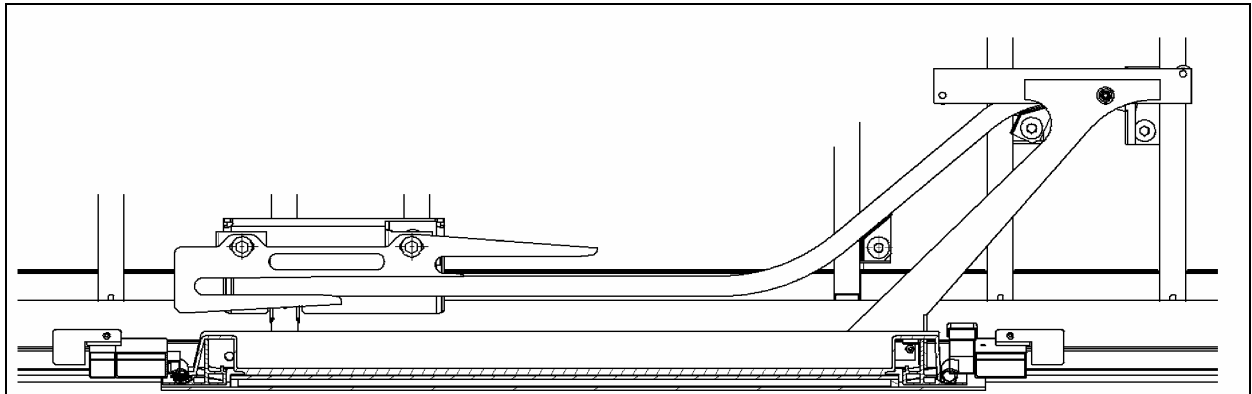

FIGURE 53: WCL UPPER ARM AND RAIL
2. Slide the top rail into the upper arm then bolt the rail to the structure. Do not fully tighten (Refer to fig. 53).